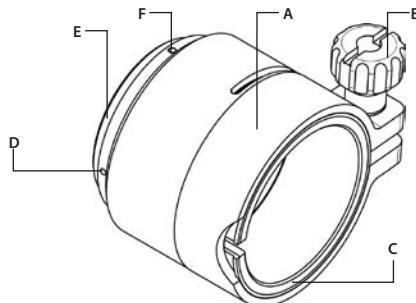

FIGURE 3-8. SCOPE MOUNTING SYSTEM
To install the CO-MR on the lens of a day scope, do the following (see Figure 3-8):
3. Using a screwdriver, remove the both M2x2.5 screws (F, see Figure 3-8). Unscrew the ring (E).